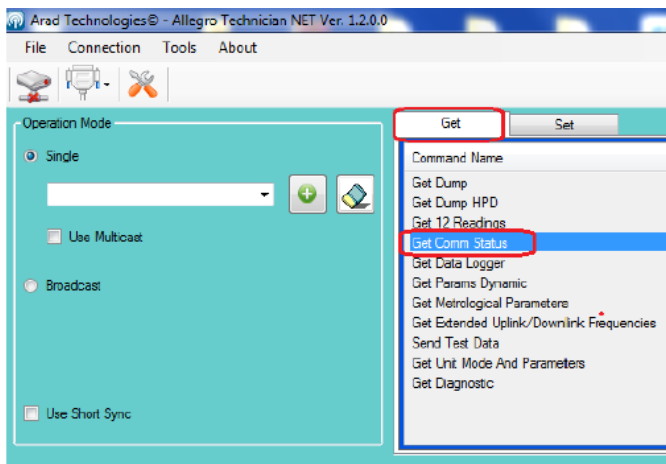

Figure 19
11. In the “**Operation Mode**” window, double-click the **Get Comm Status** in the **Get** tab (see figure 19).